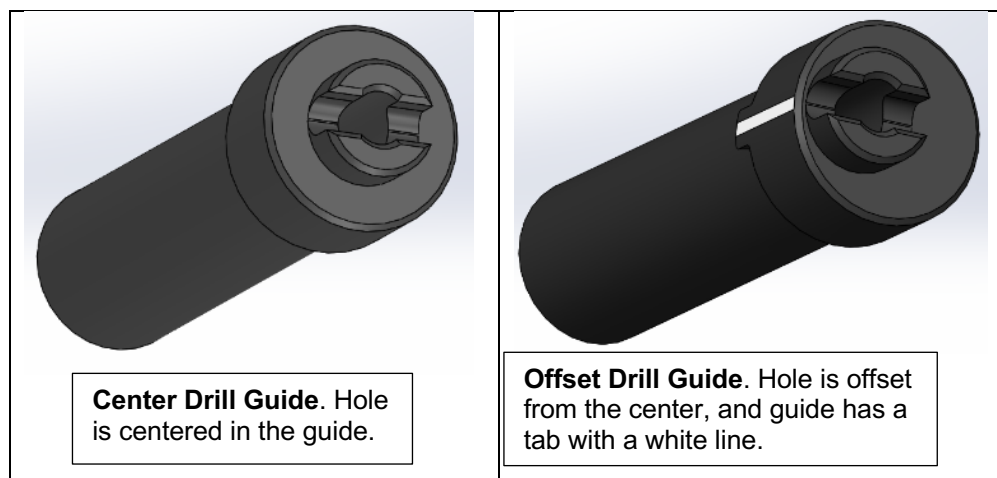

Figure 22: Center Drill Guide (Left) and Offset Drill Guide (Right)
1. **Fully tighten both roll locking screws.** If the center channel position was selected during final alignment, use the Center Drill Guide. **See Figure 22 (Left).** If one of the outer channels was selected during final alignment, use the offset drill guide **See Figure 22 (Right).** The offset guide has a tab with a white line on the side near the offset hole.